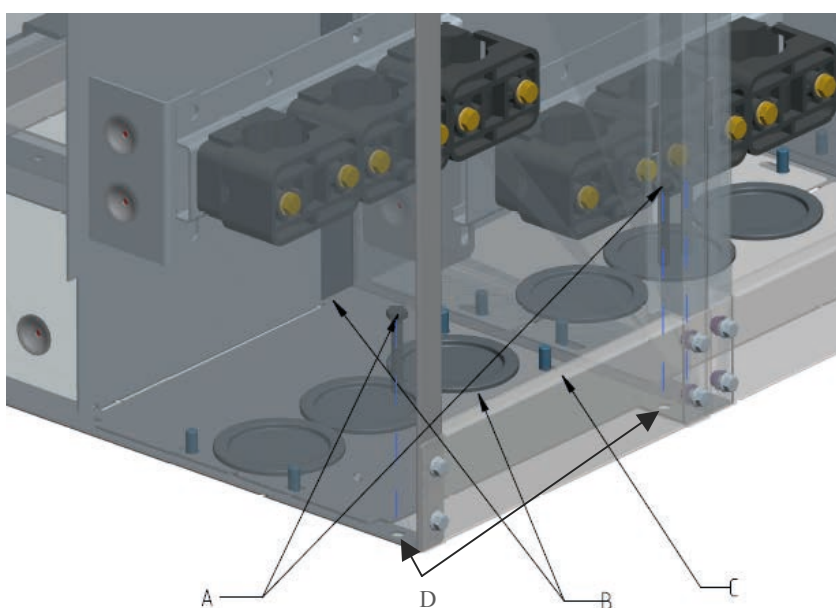

Figure 17: Installation : Anchor a DR-6
- Anchor every functional unit on the bottom by means of 2 screws and 2 dowels (see figure 17 A). Use the foreseen holes (see figure 17 B). For an easier access, you may dismantle the bottom plates (see figure 17 B) and the steel angles (see figure 17 C)